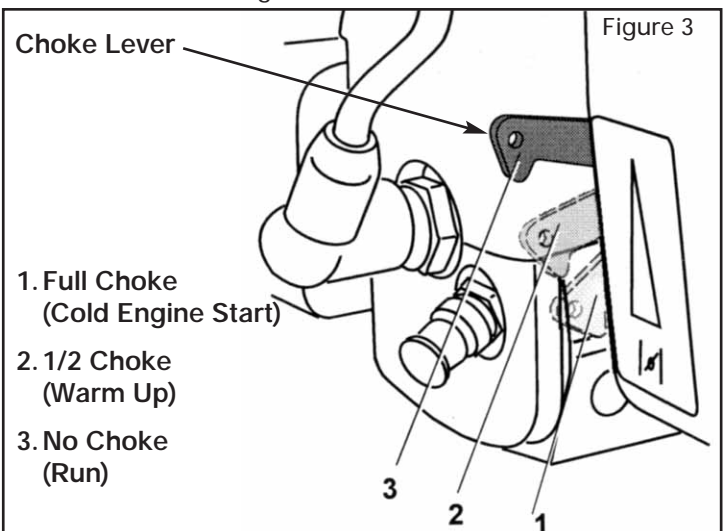

Figure 3
- B. Move choke lever (see figure 3) to "FULL CHOKE" (see equipment manufacturer's instructions).